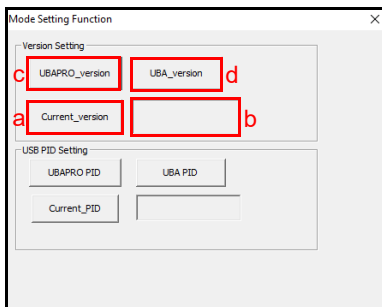

Figure 5 Change Version Setting (Mode Setting Function Screen)
The Mode Setting Function Screen (Figure 5) is displayed.
5. Click on the Current Version button (Figure 5 a) to display the current Version Setting (Figure 5 b).
6. Click on the UBAPRO_version button (Figure 5 c) to change to the UBA Pro version.
7. Click on the UBA_version button (Figure 5 d) to change to the UBA version.